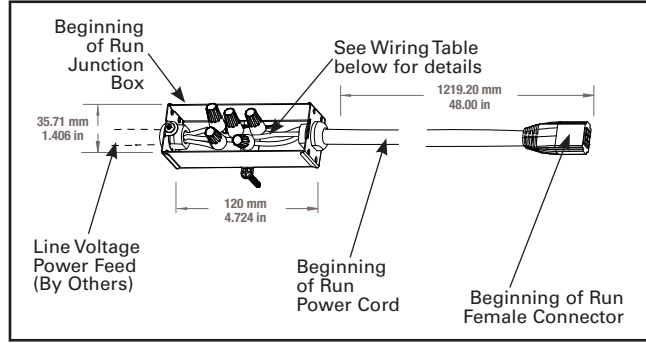

Figure 3A
4. Prepare beginning of run junction box supplied with power cord for line voltage input by removing top screw. Open junction box wiring compartment. (See Figure 3A or 3B) Feed line voltage power feed cable (supplied by others) through preferred hole or knockout hole in junction box. Trim power feed to desired length. Using wiring nuts, connect power feed to beginning of run power cord wires according to Wiring Chart or Wiring Diagram on pages 3-4 for appropriate specified dimming protocol. Green ground strap must be connected for safe operation. See Wiring Table (Below) for more details.